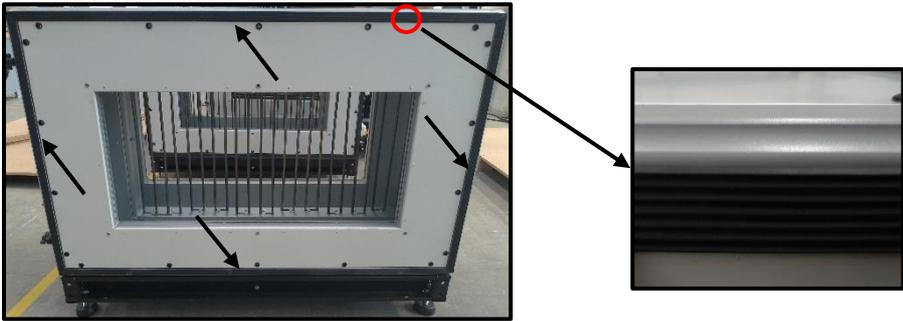

Fig. 71
1. Apply sealing strip to the surface where the module will be connected with the device (Fig. 71)